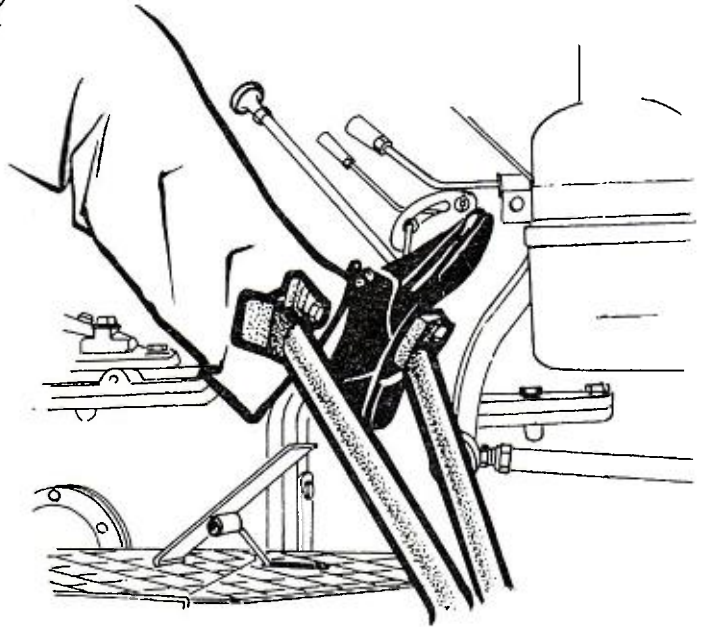

Fig. 3-15 Using single brake
- 2) When the tractor turns sharply or turns in the soft field, the steering may be not so sensitive due to the sideway slipping of the front wheels. In this case, turn the steering wheel and meanwhile depress the correspondent brake pedal (when turning left, depress L. H. brake pedal and turning right, depress the R. H. brake pedal) to facilitate the steering. (Beforehand, separate the interlocking plate of the brake pedals.) (see Fig. 3-15)